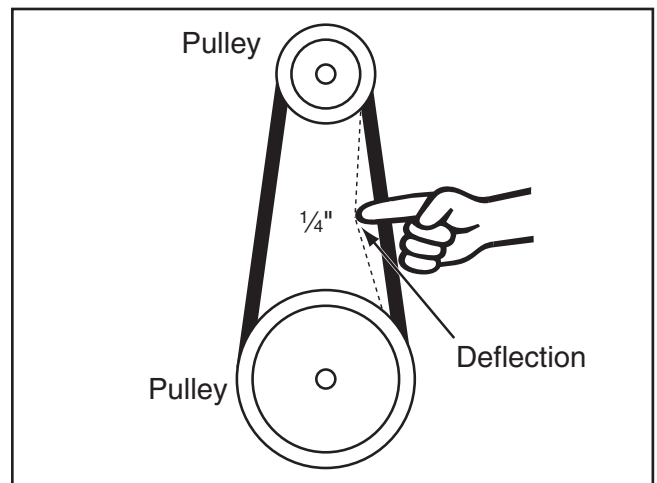

Figure 150. Testing for the correct amount of belt tension.
4. Push motor down until there is approximately 1/4" deflection when you use moderate pressure between pulleys, as illustrated in **Figure 150**, then re-tighten bolts loosened earlier in **Step 3**.